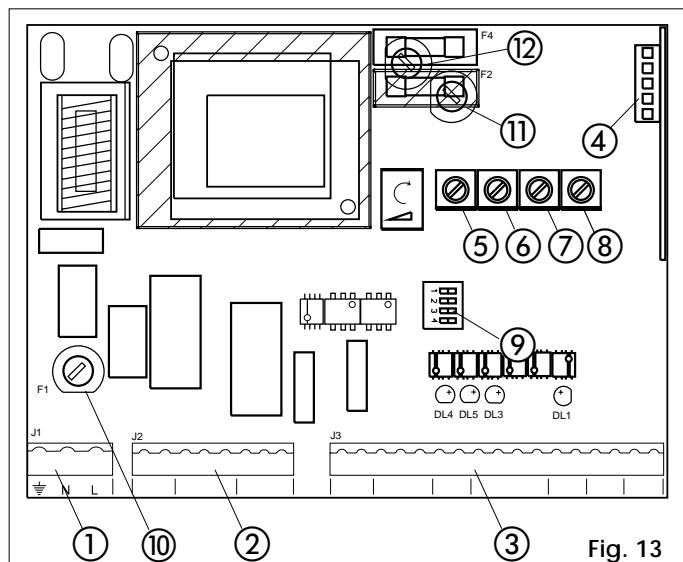

Fig. 13
Automation programming is carried out by the microswitches (fig. 13 - ref. 9) as shown in the diagram below.